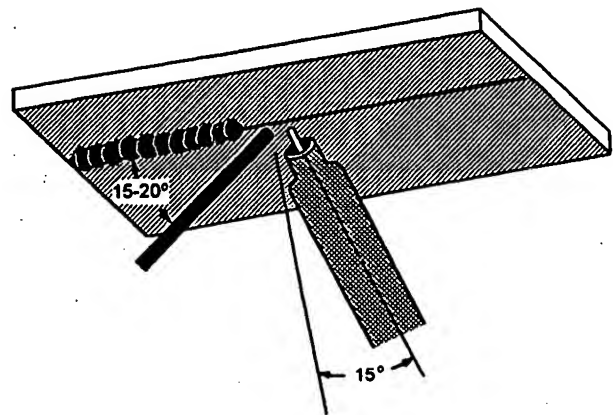

Figure 8-22.—GTA welding overhead.
**OVERHEAD WELDING.**— When GTA welding in the overhead position, you should lower the welding current by 5 to 10 percent of what normally is used for flat welding. This reduced welding current enables you to maintain better control of the welding puddle. Conversely, you need a higher flow of shielding gas. Hold the torch and the rod as you do for flat welding (fig. 8-22). You should try to maintain a small weld puddle to avoid the effects of gravity. Most inexperienced welders find overhead welding awkward; therefore, try to get in as comfortable and relaxed a position as possible when welding. This helps you to maintain steady, even torch and filler rod manipulation.